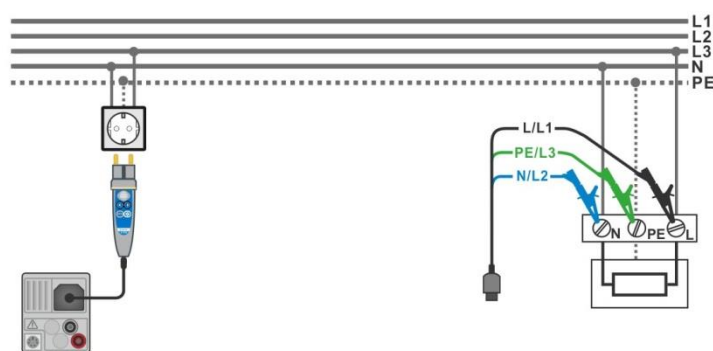

Figure 7.33: Connection of Plug commander and 3-wire test lead
- › Connect test leads or Plug commander to the object under test, see **Figure 7.33**.